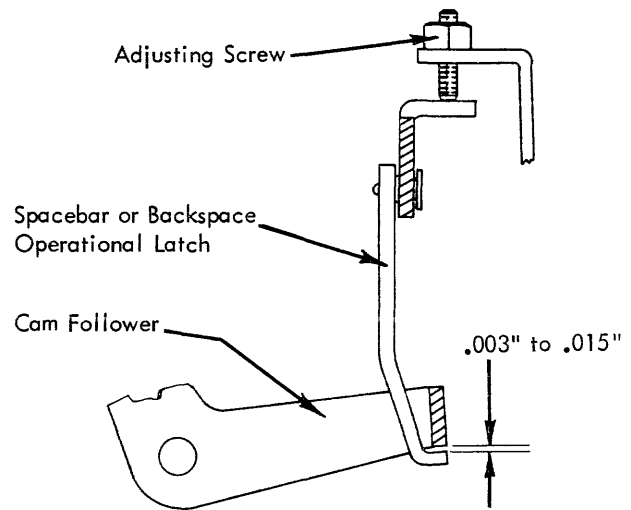
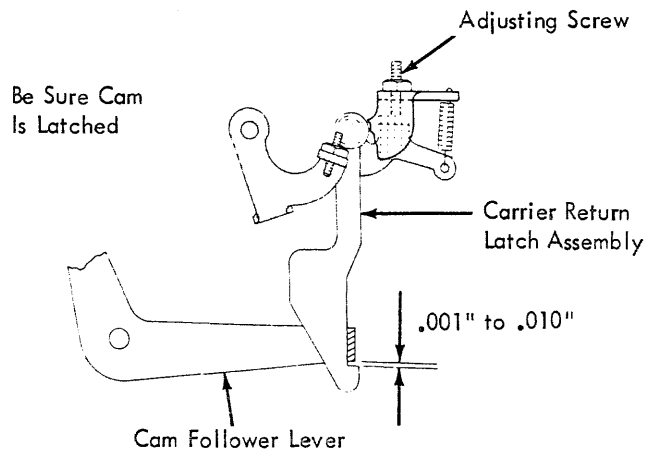

FIGURE 114B. Latch Height
FIGURE 115. Latch Height (11 Inch.)
3. Operational Latch Height - The adjustable latch screws (Fig. 114) (eccentric stop on tab latch) for the backspace, spacebar, and tab operational latches should be adjusted so that the latches will pass under the cam follower lever with a clearance of $.003"$ to $.015"$ (Fig. 114B). The carrier return operational latch adjustable stop should be adjusted so that the latch will pass under the cam follower with $.003"$ to $.010"$ clearance (Fig. 115).